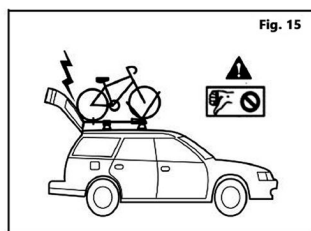

Fig. 15
- When FrontLoader bike carrier (Fig 15) or other similar long accessory part is installed on top of vehicle, opening the lift gate fully may cause damage.